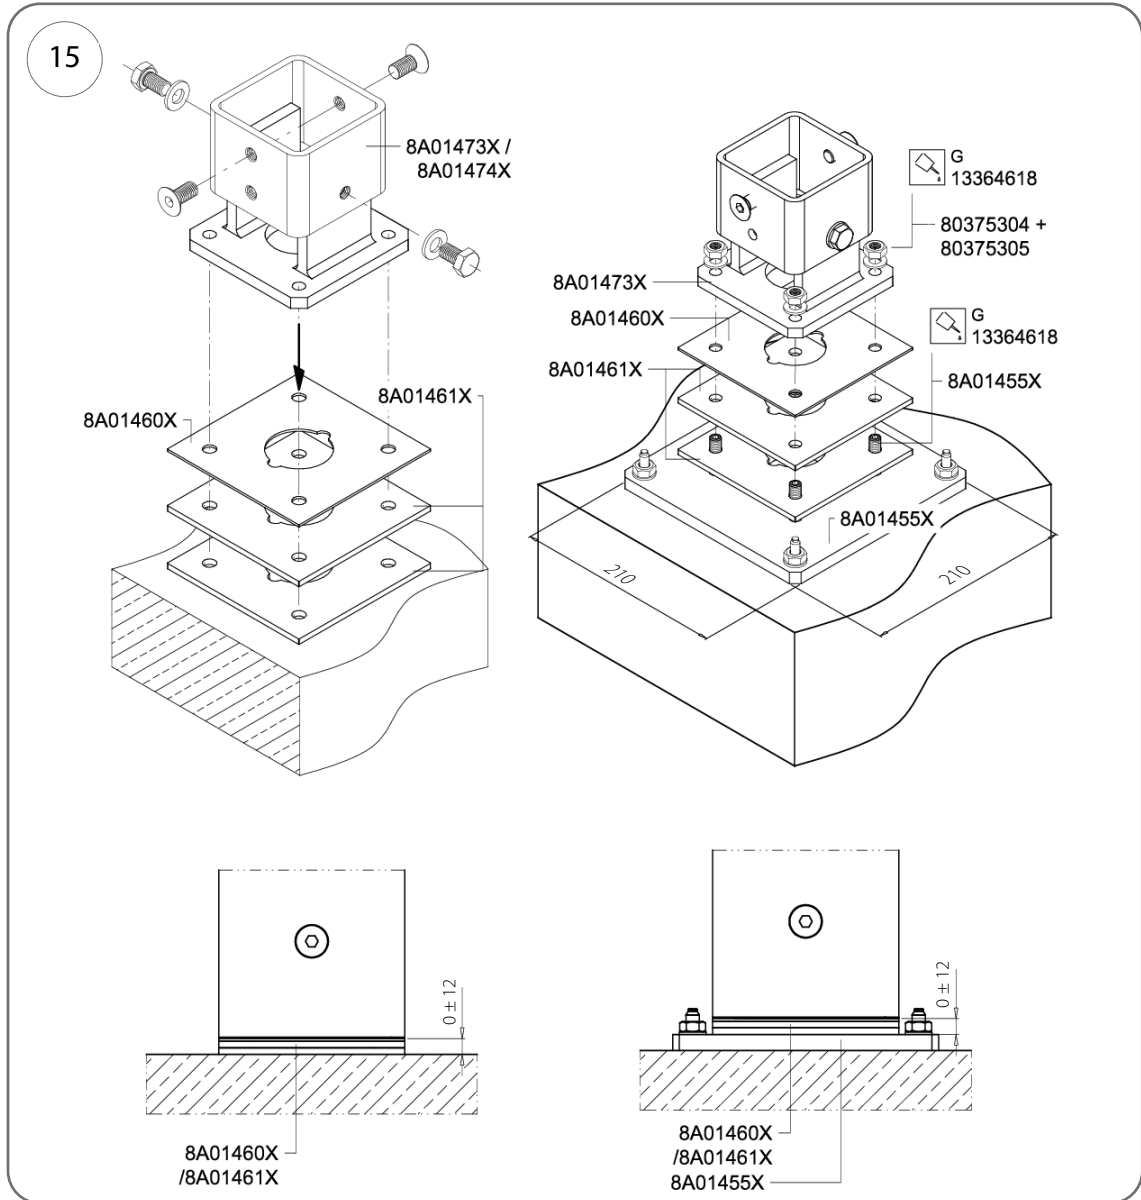

Fig. 15
5. Level all brackets relative to the post installation point with the highest elevation; in the event of discrepancies, use 2 mm or 5 mm shims (cat. no. 8A01123X; 8A01124X), inserted between the adapter and the base of the bracket (Fig. 15).